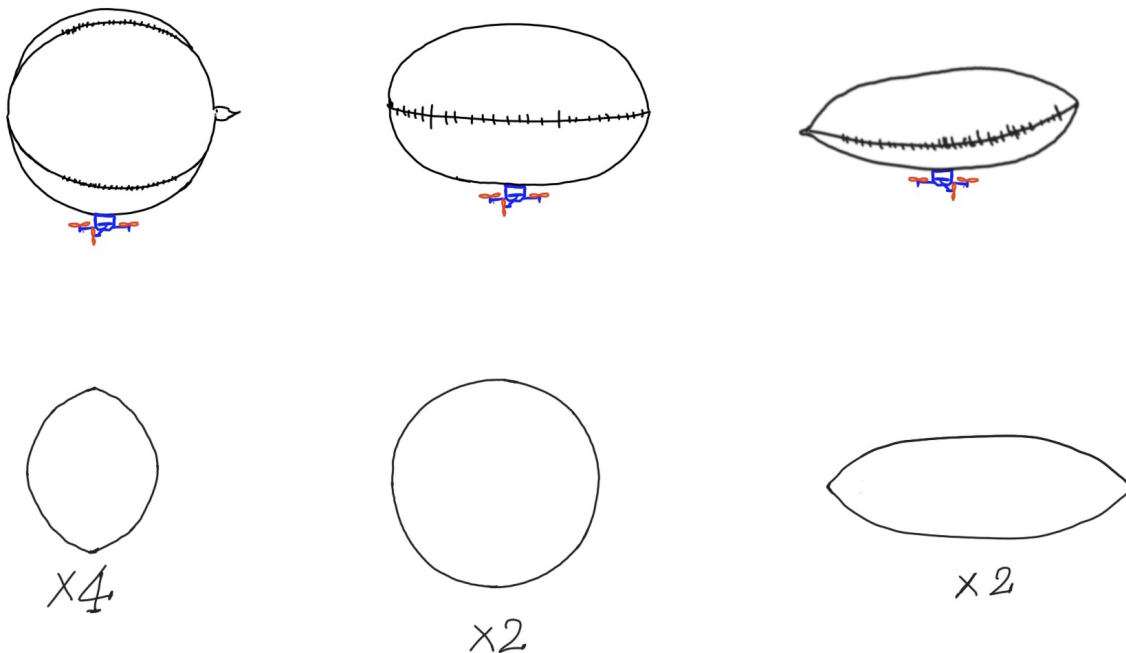

Figure 1: 3d shapes vs. 2d shape
- To be more specific, we start from the following 3 different shapes (see Fig. 1, from left to right: sphere, wheel, spindle) and verify our assumption from that.